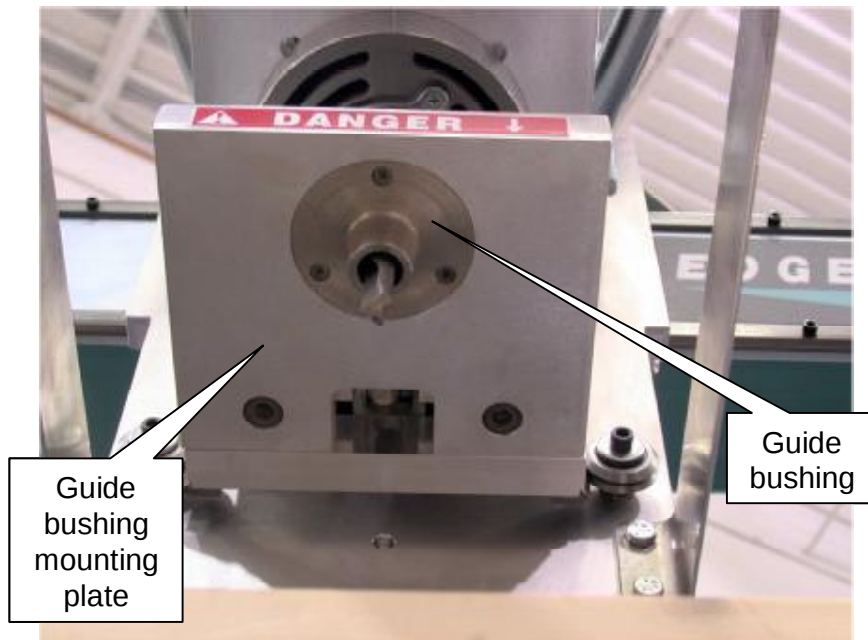

Figure 6
2. Set one stop screw so the router guide bushing (see Figure 6) clears the countertop surface by 1/32" to 1/16"